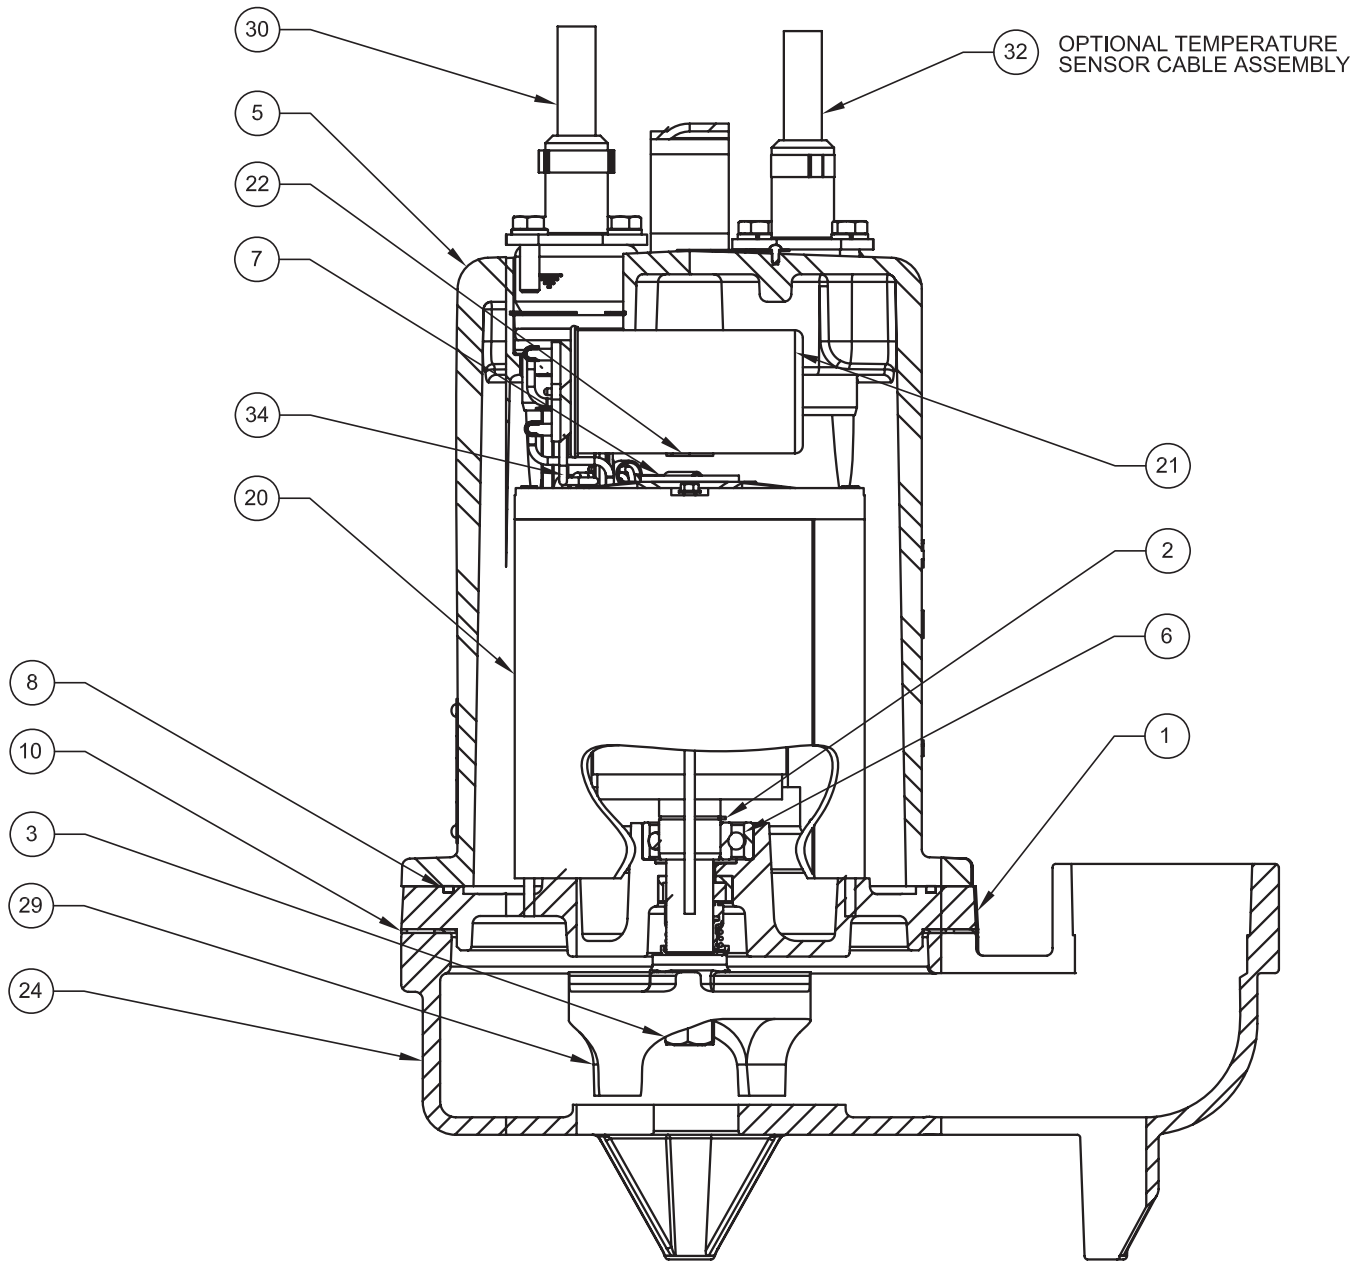

FIGURE 11
lift motor and seal plate assembly from volute (24). Clean out volute if necessary. Clean and examine impeller (29), for pitting or wear and replace if required, inspect gasket (10) and replace if cut or damaged. If the impeller (29) needs replacing, remove nut (3), place a flat screwdriver in the slot of the end of the shaft to hold the shaft stationary while unscrewing the impeller (29). (See Figure 11 or 12)
To install impeller (29), screw impeller onto the shaft hand tight. Clean the threads with Loctite cleaner. Apply thread locking compound to shaft threads and install nut (3). Torque to 40 ft. lbs. Rotate impeller to check for binding. Position gasket (10) on volute flange and position impeller and motor housing on volute (24). Position lockwashers (11) on cap screws (12) and screw into volute (24). Torque to 8 ft. lbs. Check for free rotation of motor and impeller. (See Figure 11 or 12)